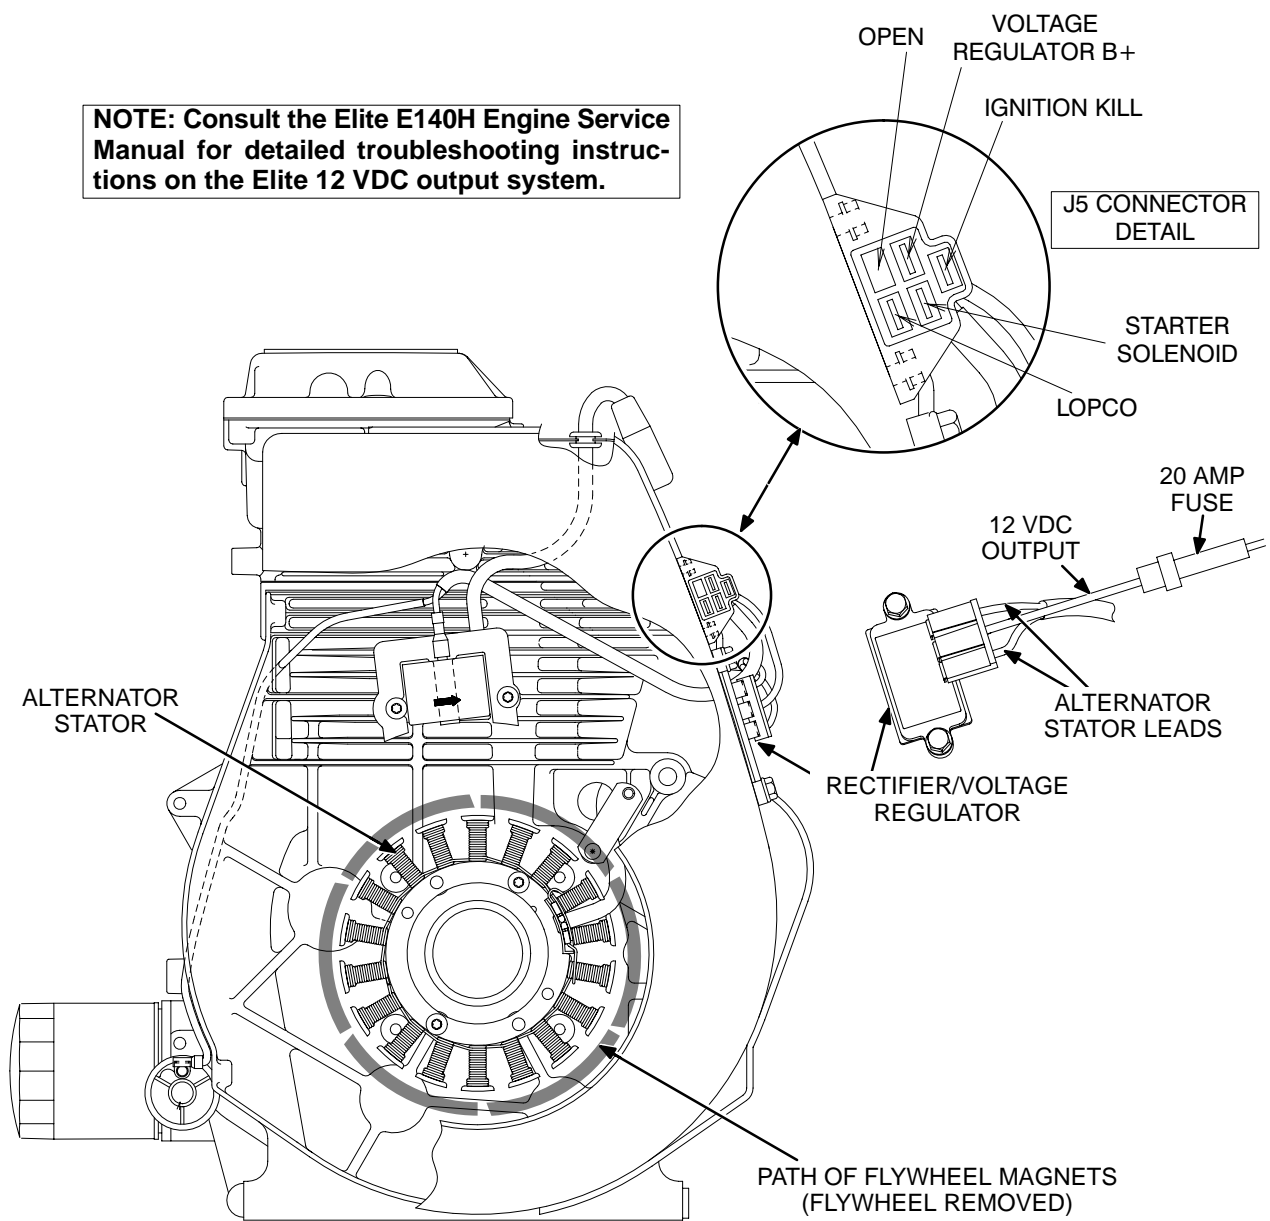

FIGURE 8-3. ELITE E140H FLYWHEEL ALTERNATOR AND VOLTAGE REGULATOR
The Elite E140H engine is equipped to provide a 12 volt DC output for recharging the cranking battery (Figures 8-3 and 8-4). The system consists of a permanent magnet flywheel alternator and a solid state rectifier/voltage regulator. The alternator produces 5 amps, and uses 3 magnets in its flywheel.
3. Disconnect the alternator stator leads from the voltage regulator (see Figure 8-3) and test for alternator stator output (AC voltage) with the engine running. If stator output is less than specified, go to Step 4. If stator output is as specified but voltage regulator output is low, replace the voltage regulator.